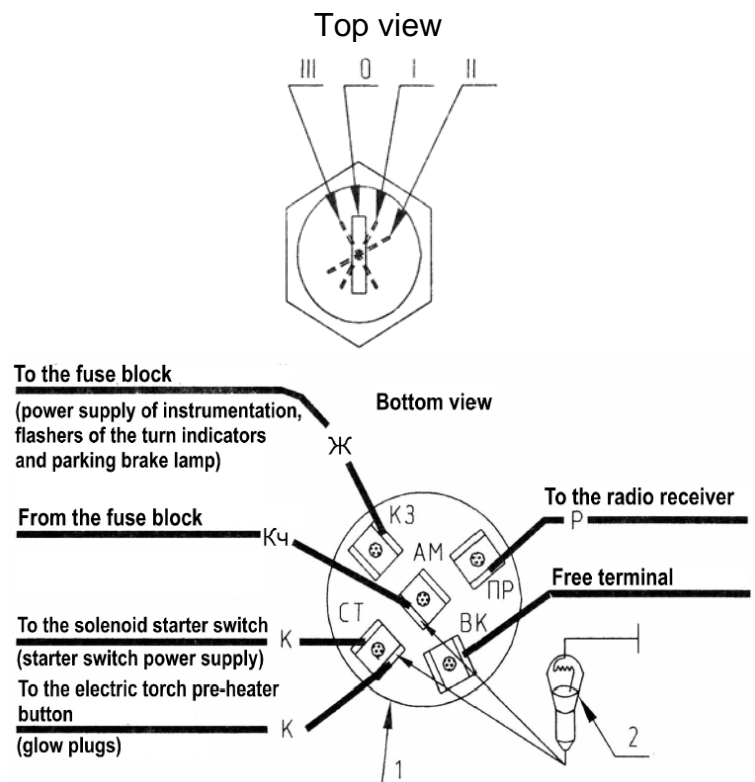

Fig.8. Checking the operability of the starter switch (SA6). For the instrumentation dashboard 80-3805010-Д1.
- Check the operability of the starter switch (SA6) by connecting one wire of the test lamp to the body and another wire to the switch terminals in turn (Fig.8 and 9):